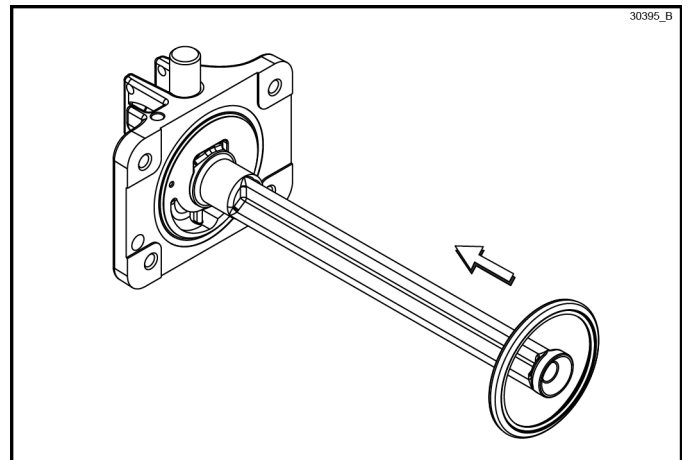

Figure-138
- Place the door gasket into the groove on the back of the freezer door. **Do not** lubricate the gasket. Install the baffle by raising the round end while engaging the lug into the door pocket. Lower the round end to secure to the door. (See Figure-138.)